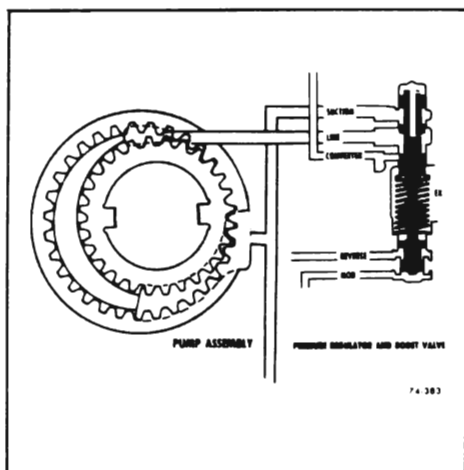

Figure 74-10 - Oil Pump Pressure Regulator Valve
d. Pressure Regulator Valve (See Figure 74-10)